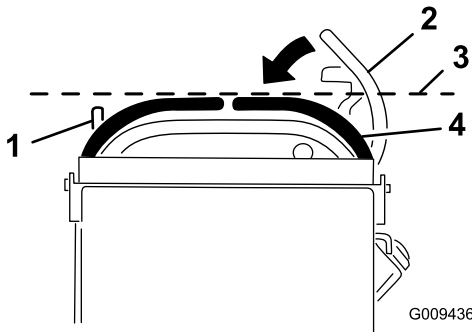

Figure 42
2. Push the motion-control levers down out of the NEUTRAL-LOCK position (Figure 42).
3. Check if the right motion-control lever aligns horizontally with the left motion-control lever (Figure 42).